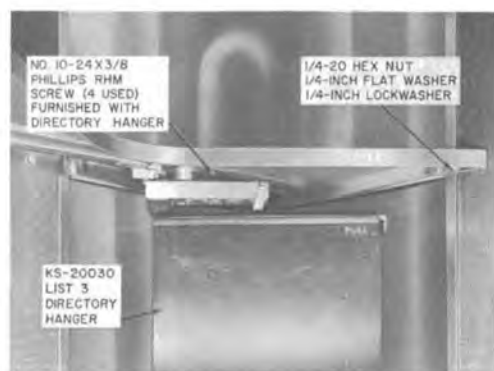

Fig. 9—B-699052 Shelf Assembly with KS-20030, List 3 Directory Hanger
2.08 A KS-20030, List 3 directory hanger, capable of accepting directories up to 4 inches thick, is available for mounting under the shelf (Fig. 9), order separately. For detailed information on the directory hanger, refer to Section 508-710-102.